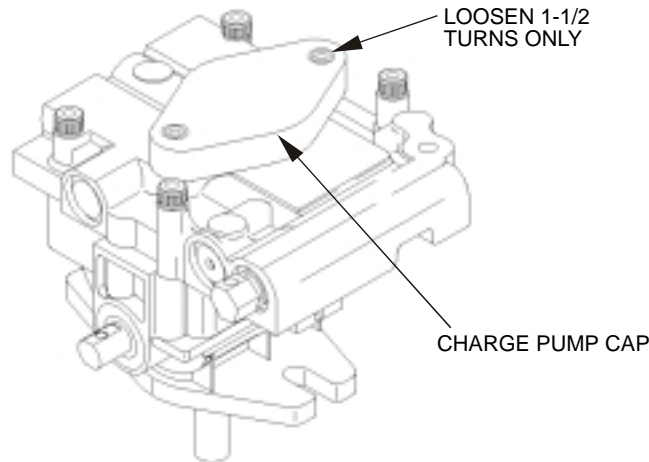

FIG. 6
- g) If either drive wheel does not rotate, one or both of the charge pumps (located on the top of the main pump as shown in Figure 6) may have lost their "prime". Refer to Section 5.1.10.
The critical area for purging air from the hydraulic system is between the oil reservoir and each charge pump located on the top of each variable displacement pump. (See Figure 6). Air in other parts of the hydraulic system will be purged through normal operation once the charge pump is “primed”.
- e) To “prime” charge pump, loosen two hex socket head capscrews (shown in Figure 6) **1-1/2 turns only. Make sure engine is not running.** Lift the charge pump housing upward and wait for a steady flow of oil to flow out from under the housing. Retighten the capscrews. Do this for both pumps.